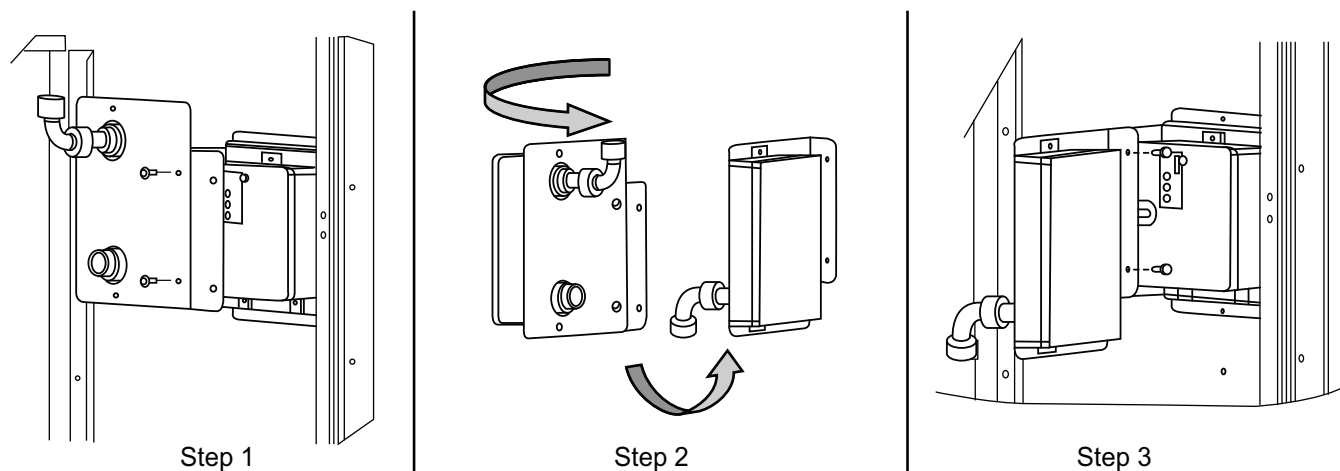

Fig. 55 — Completing Installation of Return Air Smoke Sensor
1. Unscrew the two screws holding the Return Air Smoke Detector assembly. See Fig. 55, Step 1. Save the screws.
2. Turn the assembly 90 degrees and then rotate end to end. Make sure that the elbow fitting is pointing down. See Fig. 55, Step 2.
3. Screw the sensor and detector plate into its operating position using screws from Step 1. See Fig. 55, Step 3.